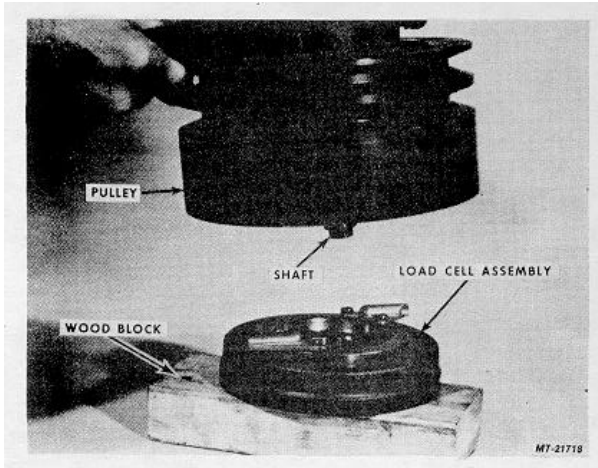

Fig. 26
23. Bump the end of the shaft on a hard wood block. The Load Cell Assembly will drop from the Shaft, Fig. 26.